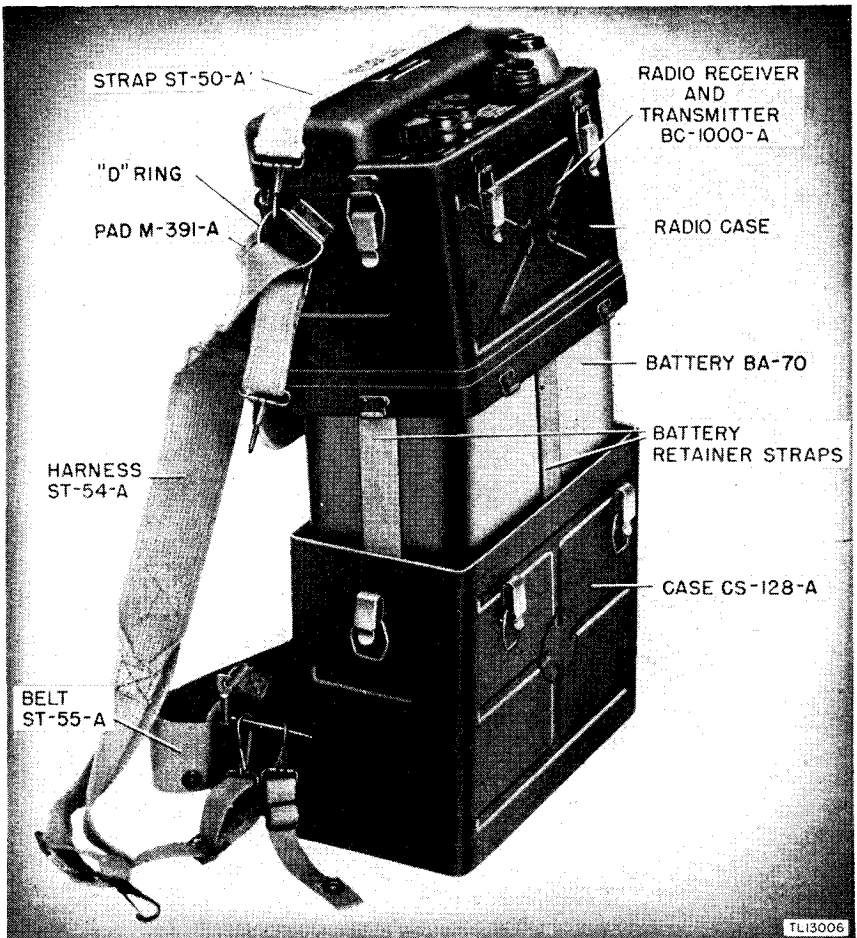

Figure 11. Radio Receiver and Transmitter BC-1000-A, radio set housing assembly after battery installation.
f. Lift the chassis case with the battery attached and lower the battery gently into the battery case. (See fig. 11.)